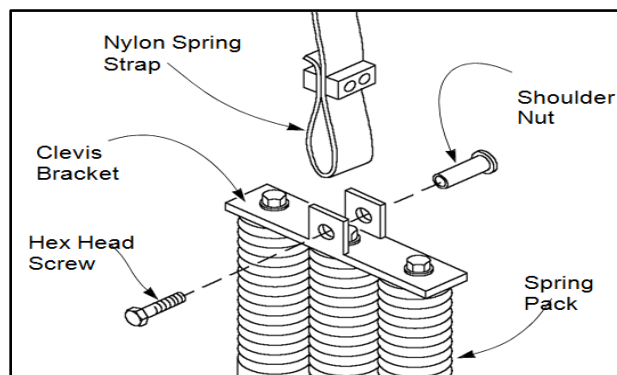

Figure 72
5. To release the spring pack from the strap, remove the hex screw and the shoulder nut passing through the clevis bracket located at the top of the spring pack. (See Figure 72.)